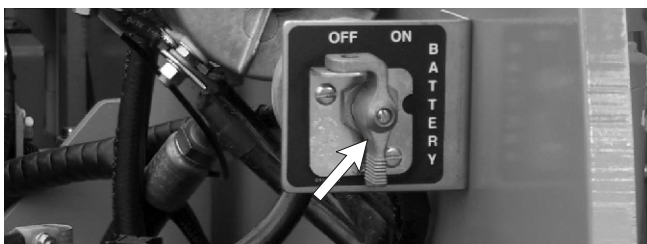

Figure 6.19—Battery Disconnect Switch
Place the battery disconnect switch in the on position (see Figure 6.19) and pull the emergency stop button out on the lower control panel.
Place the battery disconnect switch in the on position (see Figure 6.19) and pull the emergency stop button^❶ out to turn on the electrical power. Operate the emergency power switch^❷ to operate the aerial platform from the upper controls using the emergency power system.